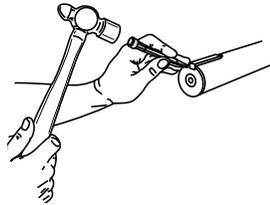

FIGURE 9
**THICK WALL BUSHING** (with separate internal and external keyways) — Insert driven shaft key into driven shaft keyway. If driven shaft has an open-ended keyway, stake keyway as illustrated in Figure 9 to prevent axial dislocation of shaft key under operating conditions. Slide bushing assembly onto driven shaft (bushing may have to